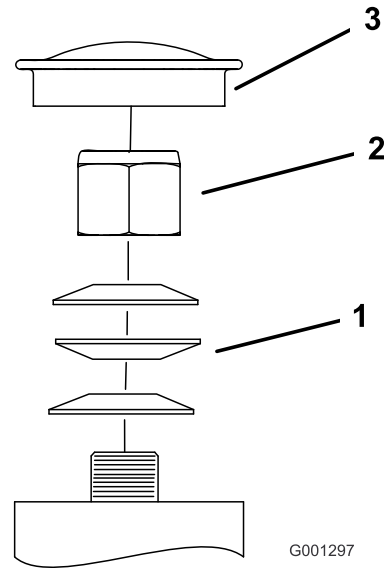

Figure 69
3. Remove the dust cap from caster and tighten lock nut (Figure 69).
4. Tighten the locknut until the spring washers are flat and then back off a 1/4 turn to properly set the pre-load on the bearings (Figure 69).
Important: Make sure the spring washers are installed correctly as shown in Figure 69.
5. Install the dust cap (Figure 69).